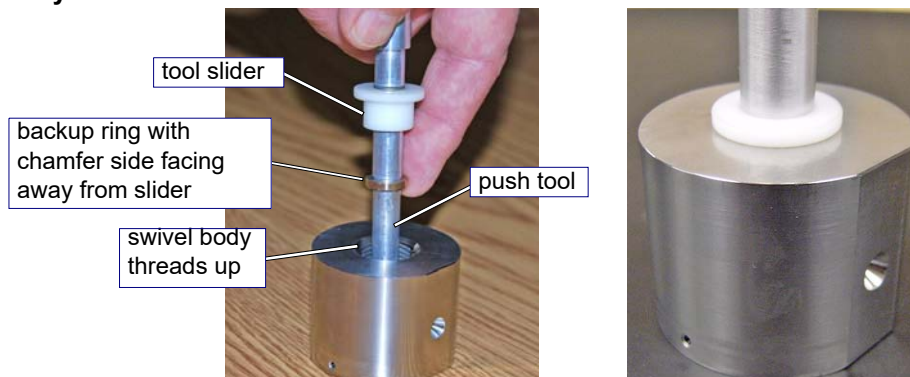

Figure 72
- c. Hold the **backup ring** and slider (Figure 72) in place on the push tool with your finger. Then insert the slider and **backup ring** into the **swivel body** until the top of the slider is flush with the **swivel body**.